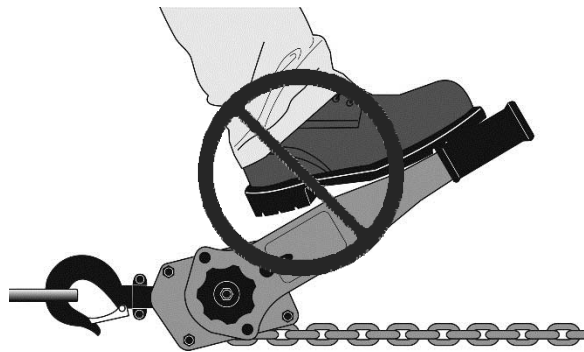

Figure 7
- Do not use your foot to apply pressure to the lever handle. See Figure 7.